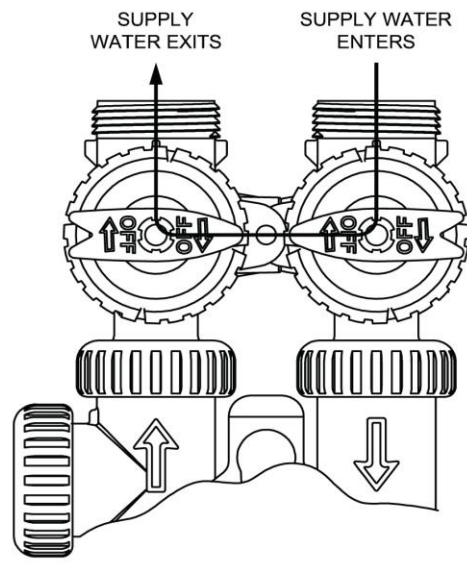

Figure 3
3. **Diagnostic Position:** The inlet handle points in the direction of flow and the outlet handle points to the center of the bypass valve, system water pressure is allowed to the control valve and the plumbing system while not allowing water to exit from the control valve to the plumbing. (See Figure 3)